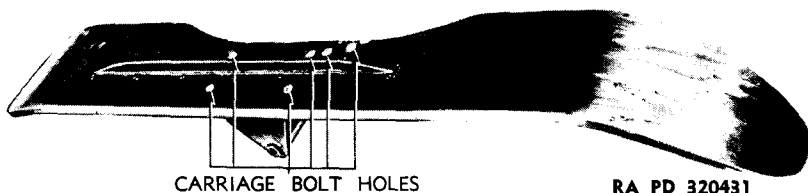
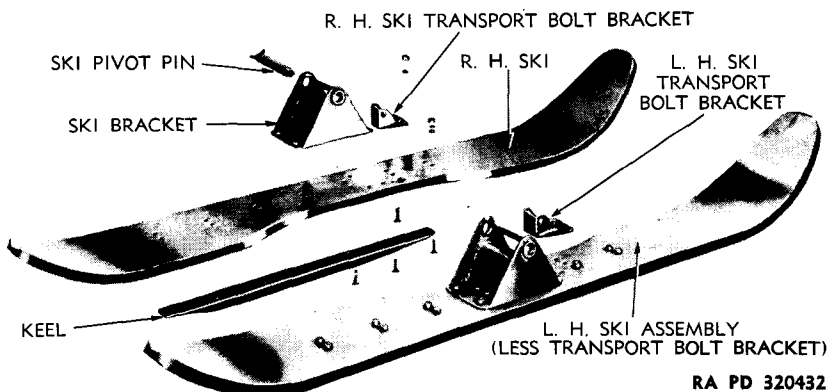

Figure 20 — Location of Carriage Bolt Holes
Figure 21 — Ski Assembly Disassembled
a. Install Ski Brackets. Install six carriage bolts up through holes in ski (fig. 20). Turn ski on flat side, and install ski brackets with nuts and lock washers. See figure 21 for relation of parts on right and left skis, so that brackets will be installed correctly with regard to right and left ski transport brackets. The stop bar on ski brackets goes toward front of ski.